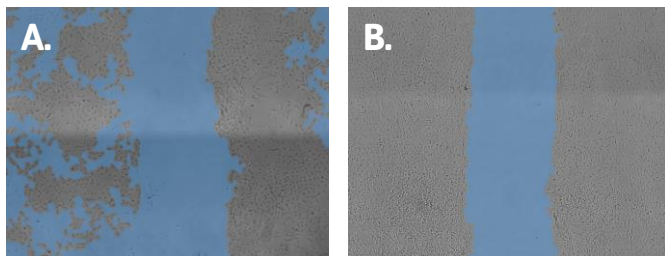

Figure 1: The effect of confluency on scratch analysis
8. Add the appropriate amount of cell suspension to each well such that the monolayer reaches 75-90% confluency by the start of the experiment (Fig. 1). Make sure to homogeneously spread the cells during seeding.
To find the correct seeding density, perform a test with different seeding densities such that the appropriate confluency (75 – 90%) is reached after 24 h (Figure 1).
- Check the cell density after 24 h with the **Omni** or **Lux3**. In case the confluency is lower than 75%, place the cells back in the incubator and check the confluence regularly until the correct level is reached (Fig. 1).